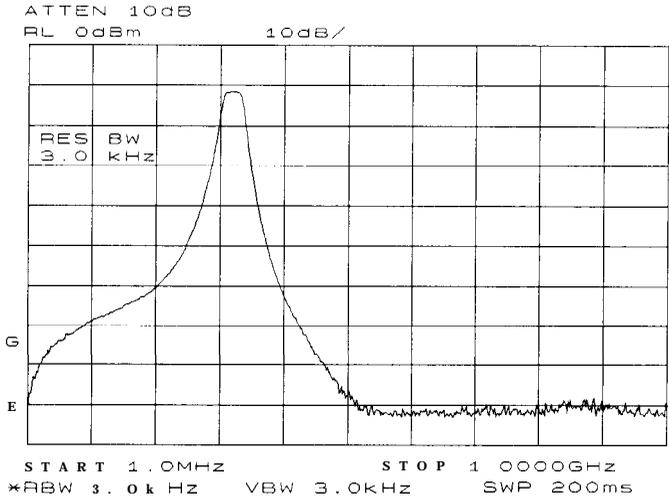

Figure 2-33.
- 6. Decrease the resolution bandwidth to increase sensitivity, and narrow the video bandwidth to smooth the noise. In Figure 2-33, the resolution bandwidth has been decreased to 3 kHz.